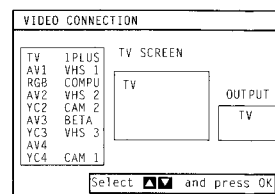

Fig. 42.
- 1 Select Video Connection with  $\Delta$ + or  $\nabla$ - and press OK. The VIDEO CONNECTION menu appears. (See Fig. 42)